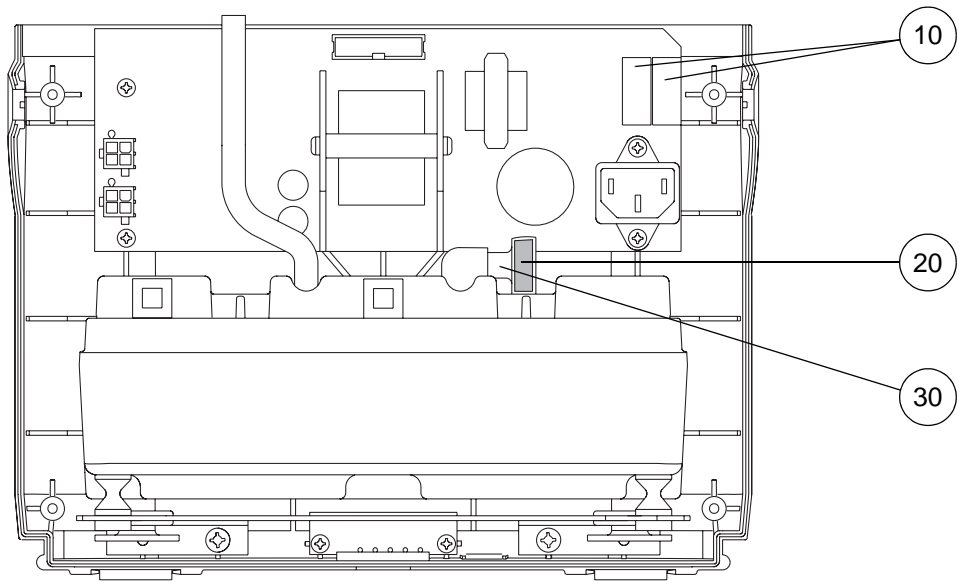

Figure 42 - Replacing the Mains/Power Fuses and Compressor Air Inlet Filter
- 16.2 Un-clip the plastic cover on one of the fuseholders, and remove the fuse (Fig 42, Item 10).
- 16.3 Install the new fuse (Fig 42, Item 10) into the fuseholder, and clip the plastic cover onto the fuseholder.
- 16.4 Repeat for the second fuse (Fig 42, Item 10).
- 17.2 Using a pair of tweezers, remove the air inlet filter (Fig 42, Item 20) from the air inlet filter holder (Fig 42, Item 30).
- 17.3 Push the new air inlet filter (Fig 42, Item 20) fully into the air inlet filter holder.